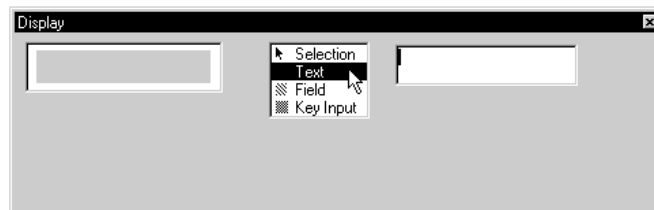

Figure 4-25 Display Window - Text Tool Selected
27. The **Display** window shows the text entry screen (Figure 4-25).